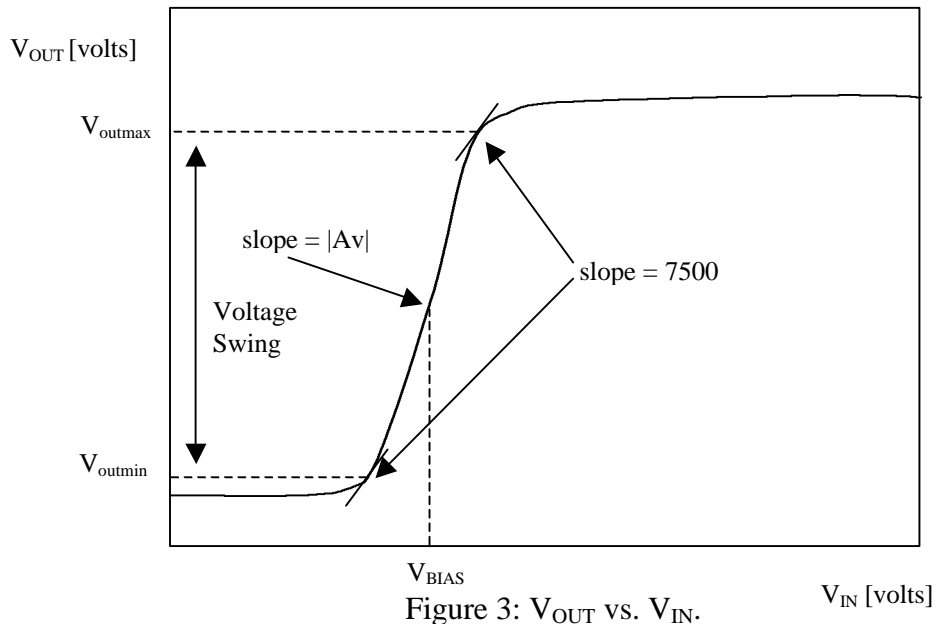

Figure 3: V_{OUT} vs. V_{IN} .
3. The output voltage swing, $(V_{outmax} - V_{outmin}) > 3$ volts (see Figure 3).
In the first line, a vin between nodes 1 and 0 is specified, with an ac small signal magnitude of 1 V and phase of 0 and a DC offset of X V. When doing a DC sweep, the specified AC and DC values on this line are irrelevant. The next line sweeps the vin source from 0 to 5 V in steps of 1 mV. Figure 3 shows a sample transfer characteristic and you could find the value for V_{BIAS} from the characteristics. You could also determine the voltage swing from this graph by measuring the range of output values for which the circuit will have the specified gain. You will need to repeat this procedure (finding V_{BIAS}) every time you change your design. You will need to hand in this DC transfer characteristic graph. Clearly demarcate the maximum and minimum voltage as well as the output voltage range on the transfer characteristic